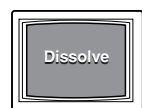

Figure 3-31 — A dissolve effect
- A **dissolve** causes the program image to fade out while the preview image fades in (figure 3-31).